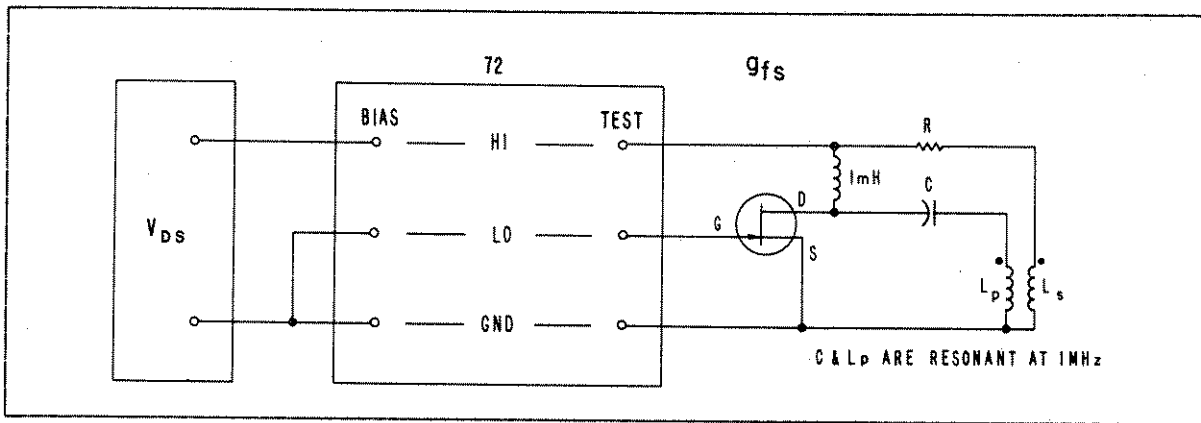

Figure 2-7. Transistor Transconductance Measurement
D. Forward Transconductance (g_{fs}). See Figure 2-7. The 72B is calibrated for an input current of $+je_g\omega C$, where C is the full-scale value of capacitance for any given range. Connecting the gate of a unipolar transistor to the LO TEST terminal will, by definition, generate a drain current of $e_g g_{fs}$, provided that the external drain-circuit impedance